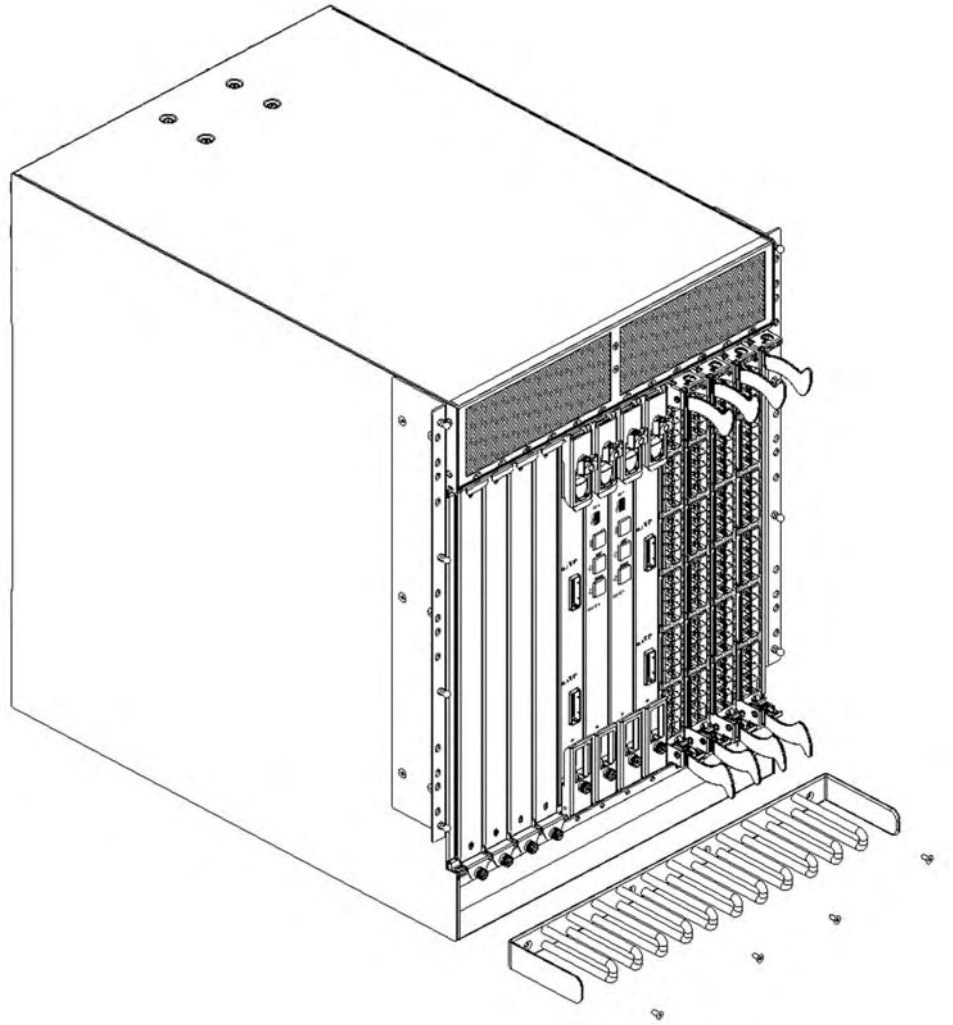

Figure 25. Cable management comb
2. Unscrew and save the four screws holding the comb to the chassis (see Figure 25 on page 57). Support the comb to prevent it from falling.